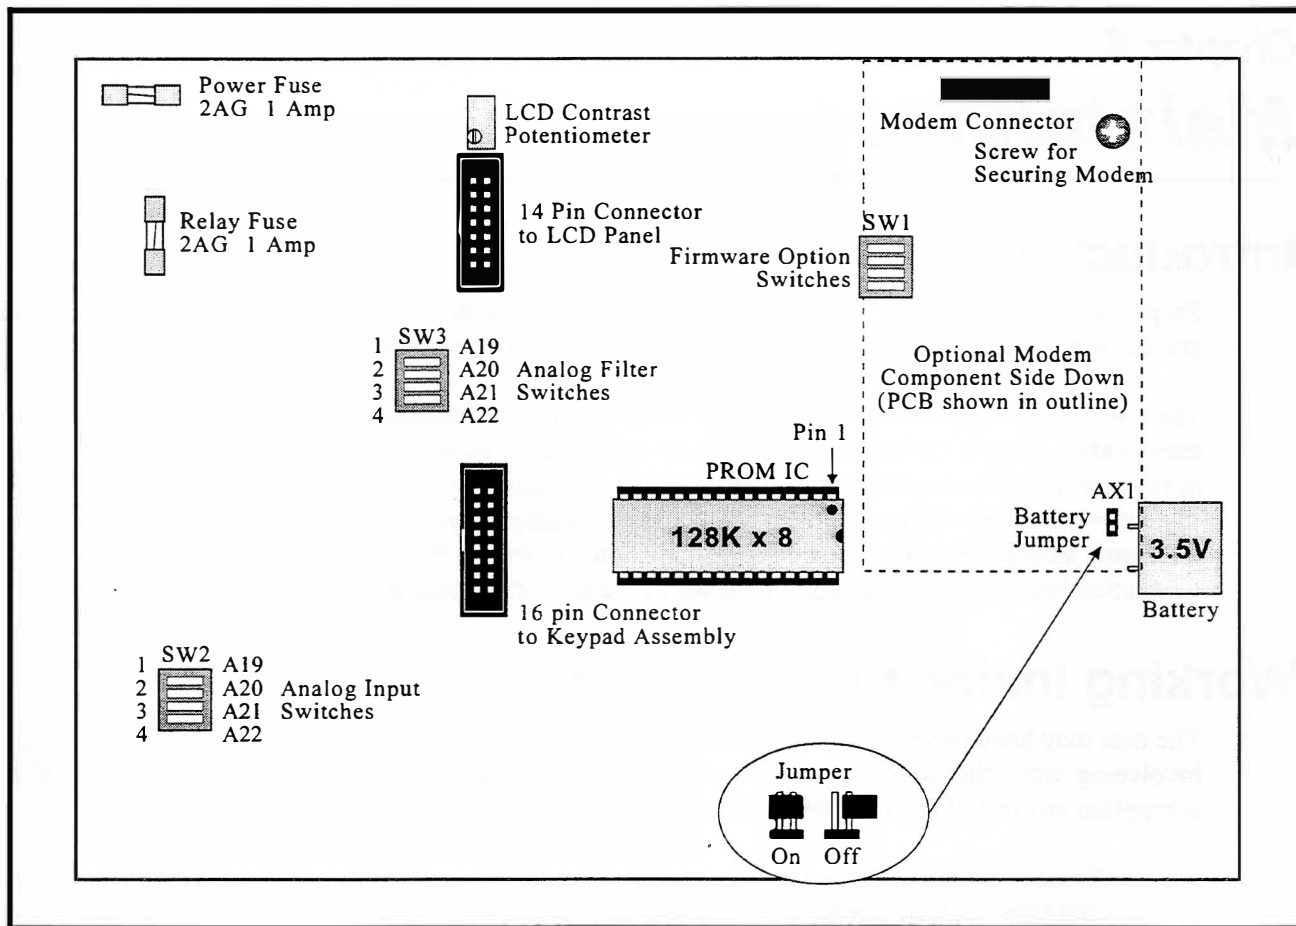

Figure 4
- Remove the cover assembly, being careful not to pull on the internal cables. Refer to Figure 4.
The contrast level of the LCD panel may occasionally need to be adjusted to compensate for any variations caused by temperature. To adjust the contrast level locate the potentiometer and rotate its setting until the desired contrast is achieved. Refer to Figure 4.
To install the modem first remove the recorder's cover assembly in accordance with the procedure entitled "Working Inside the Recorder" on page 69. Locate the field of sixteen pins near the upper right-hand corner of the PCB. Refer to Figure 4. Install the modem, component side down, by mating its sixteen-pin connector with the field of pins. Use the 6-32 screw and stand-off to secure the modem.
- Locate the installed PROM IC. Refer to Figure 4.
There is one jumper setting and three four-position switches on the PCB. Each are described in the following four sections. Refer to Figure 4 to locate the appropriate jumper and switches.
The four-position Analog Input switch (labeled “SW2”) is used to configure the CWR-22 for use with the CWR-CS accessory. To assign an Analog Input to the Current Sensor the switch for that input must be closed. To assign the input as a voltage input the switch must be opened. Analog Inputs A19 through A22 use switch positions 1 through 4, respectively. Figure 4 shows the location of the correct four-position switch.
Each Analog Input is assigned a position in the Analog Filter Switch (labeled “SW3”). Refer to Figure 4. To enable slow filtering close the appropriate switch. To enable fast filtering open the switch.